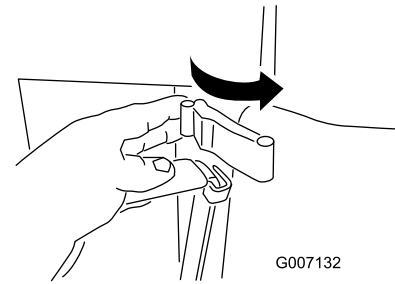

Figure 42
1. Pull out and forward on the latches on both sides of the traction unit (Figure 42).
2. Place the latches over the locking brackets on each side and secure them (Figure 42).